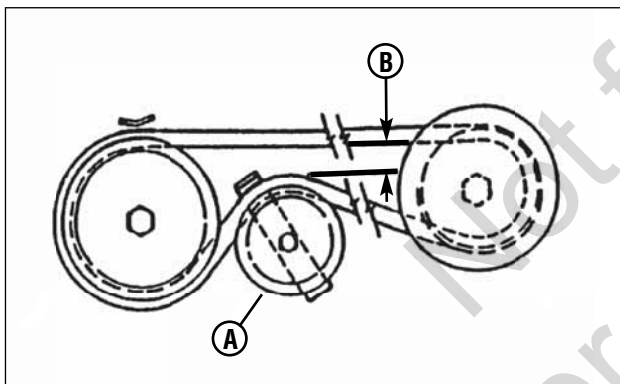

Figure 35: Measuring the belt spacing
3. Place the deck cutting height lever in the third position (middle notch). Measure the belt spacing (**B**, **Figure 35**) between the idler pulley (**A**) and belt. The distance should measure 1-1/4" but no less than 1".